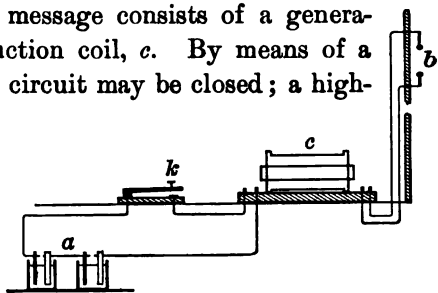

FIG. 231
**350. The Wireless Transmitter.** — *Wireless telegraphy* makes use of these Hertzian waves, which need no conductor other than the ether. The *transmitter* (Fig. 231) used in sending a message consists of a generator, *a*, and an induction coil, *c*. By means of a key, *k*, the primary circuit may be closed; a high-potential current will be induced in the secondary, and this is made to discharge across an arc at *b*. The secondary circuit is